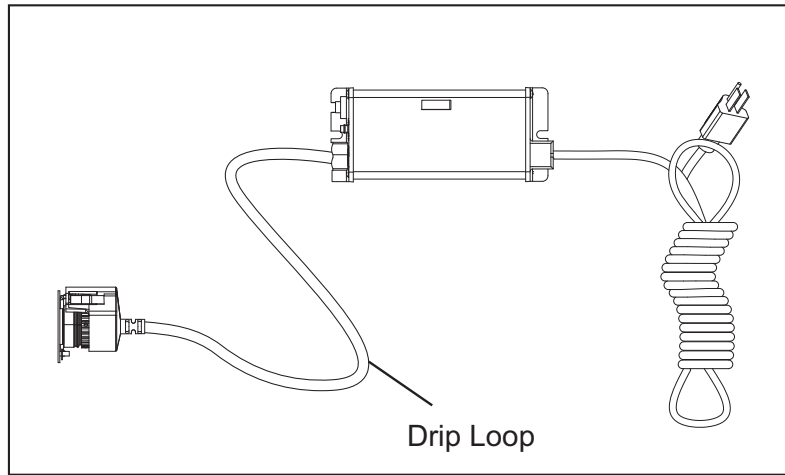

Figure 5 Drip Loop
- The controller should be mounted either above or beside the UV chamber. Always mount controller horizontally to prevent moisture from running down cordage and causing a potential fire hazard. Drip loops in all cordage connected to controller is highly recommended. Refer to Figure 5.
4. Mount the VIQUA ICE controller horizontally to the wall, near the UV chamber. Ideally place the controller above the chamber and away from any water connection point, to prevent any water from potentially leaking onto the controller by means of a leak at a connection point or a "sweating" system. Make sure you allow for a "drip-loop" as shown in Figure 5 on the UV lamp, UV sensor, and power cord, again, to prevent any water from potentially entering the controller.